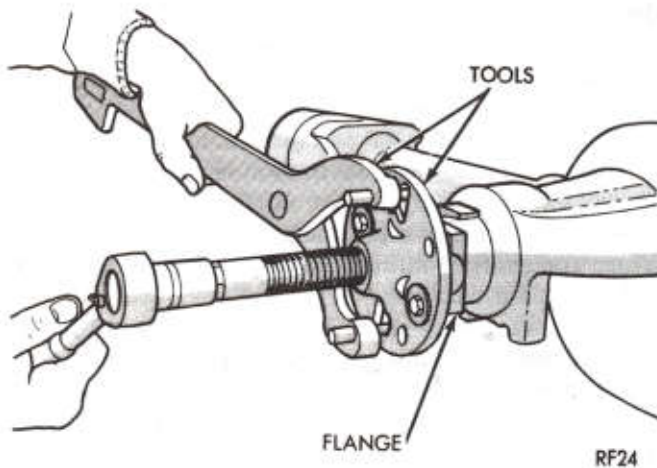
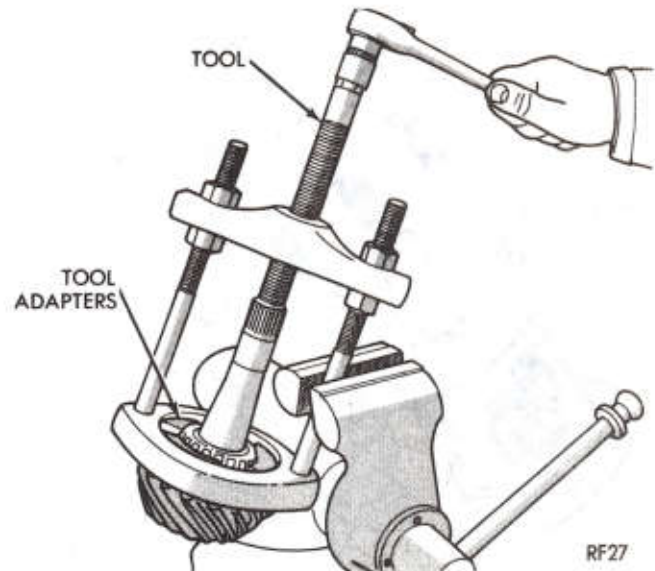

Fig. 15—Removing Drive Pinion Companion Flange
Fig. 16—Removing Drive Pinion Rear Bearing Cone
(15) Using an inch-pound torque wrench, measure pinion bearing preload and record. Remove drive pinion nut and washer. Using Tool C-452 and holding Tool C-3281 remove drive pinion flange (Fig. 15).
(16) Using a screwdriver tip and hammer, remove the drive pinion oil seal from carrier casting and discard.
(17) To remove drive pinion or front pinion bearing cone, the pinion stem must be driven rearward out of the bearing. **This will result in damage to bearing rollers and cup and both bearing cone and cup must be replaced with new parts. Discard collapsible spacer.**
(18) Using Tool Set C-4306 removers and C-4171 handle, remove front and rear bearing cups from housing.
(19) Remove rear bearing cone from drive pinion stem. On 8-3/8 inch axles use Tool C-293-PA and C-293-42 adapters. On the 9-1/4 inch axles use Tool C-293-PA and C-293-37 adapters. Care must be taken to insure that the adapters are located so as not to pull on bearing cage (Fig. 16).
(20) Mount differential case and ring gear assembly in a vise equipped with soft jaws (brass).